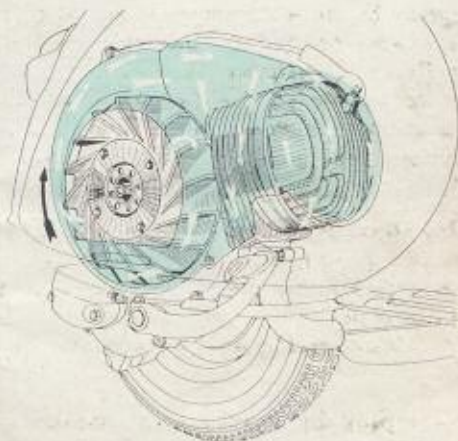

Fig. 7 - Engine cooling scheme
**Cooling** effected at all engine speeds by a centrifugal fan (see Fig. 7).